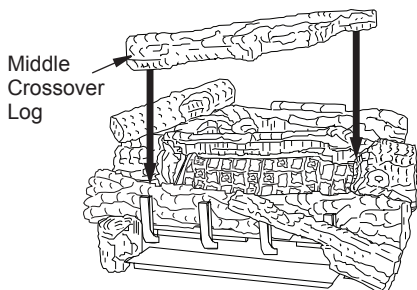

Figure 43 - Installing Middle Crossover Log
10. Rest the middle crossover log onto the right middle log and the left front log (see Figure 43). Make sure to match the projection on the bottom of the crossover log with the recess area in the right middle log and the left front log.